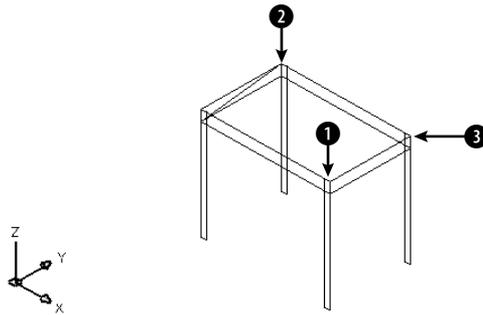

Figure 21-9: The piano bench after being shrunk with the STRETCH command.
3. Choose Stretch from the Modify toolbar. Use a crossing window to select the right side of the bench. Eight objects should be selected. End object selection. At the Specify base point or displacement: prompt, use the Endpoint object snap to pick **1** in Figure 21-9. At the Specify second point of displacement: prompt, type `@-15,0 ↵`.
Specify first point: Choose 2 in Figure 21-9.